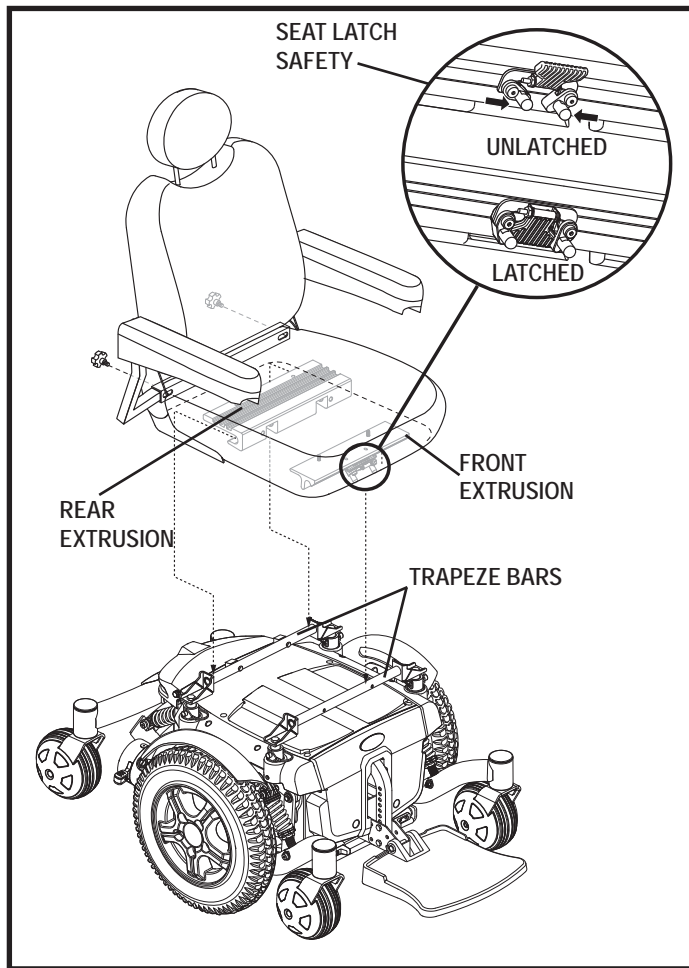

Figure 7. Universal Mounting System and Contour Seat
It may be necessary to install the seat either prior to initial operation or after transporting your power chair. Contour seats are attached to the power base with the Universal Mounting System (UMS). The UMS consists of universal parts that may be attached to the seat, regardless of seat width or seat depth. The two main components are aluminum extrusions mounted to the seat base. These extrusions attach to a pair of trapeze bars that are mounted to the power base. **See figure 7.**
1. Tilt the seat back and slide the rear extrusion onto the rear trapeze bar. **See figure 7.**
3. Flip the seat latch safety down. **See figure 7.**
5. Flip up the seat latch safety. **See figure 7.**